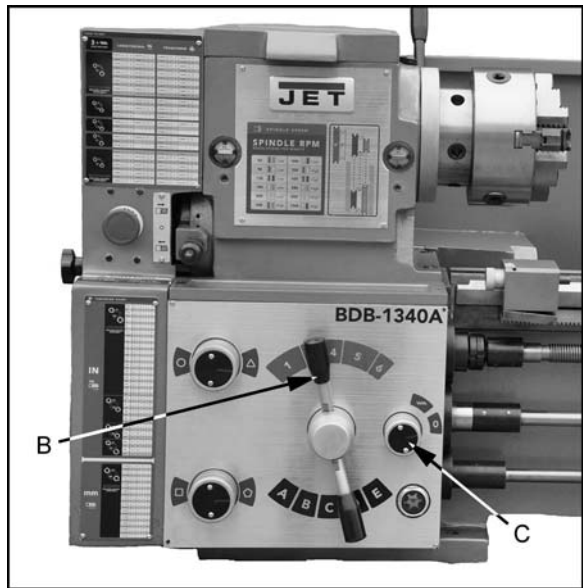

Figure 26
2. Set the selector handle (B, Fig. 26) to the "3" position and turn knob (C, Fig. 26) counter-clockwise so the arrow is pointing up to start the feed rod rotating.